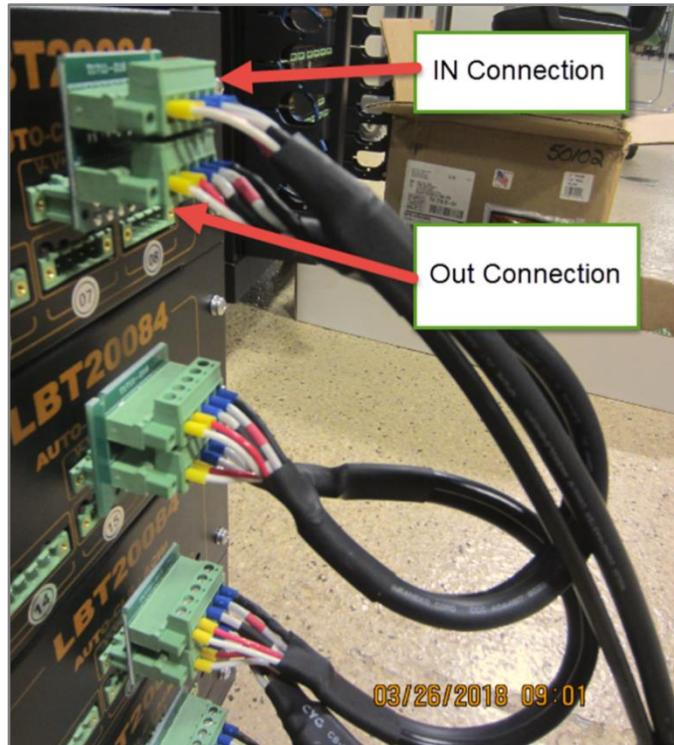

Figure 19-16 Multiple ACIM / Gamry Connection Plugs
- b) For chassis with multiple Gamry ports/connections, there is a cable system to daisy-chain on each board so that they can run simultaneously, as in Figure 19-16.